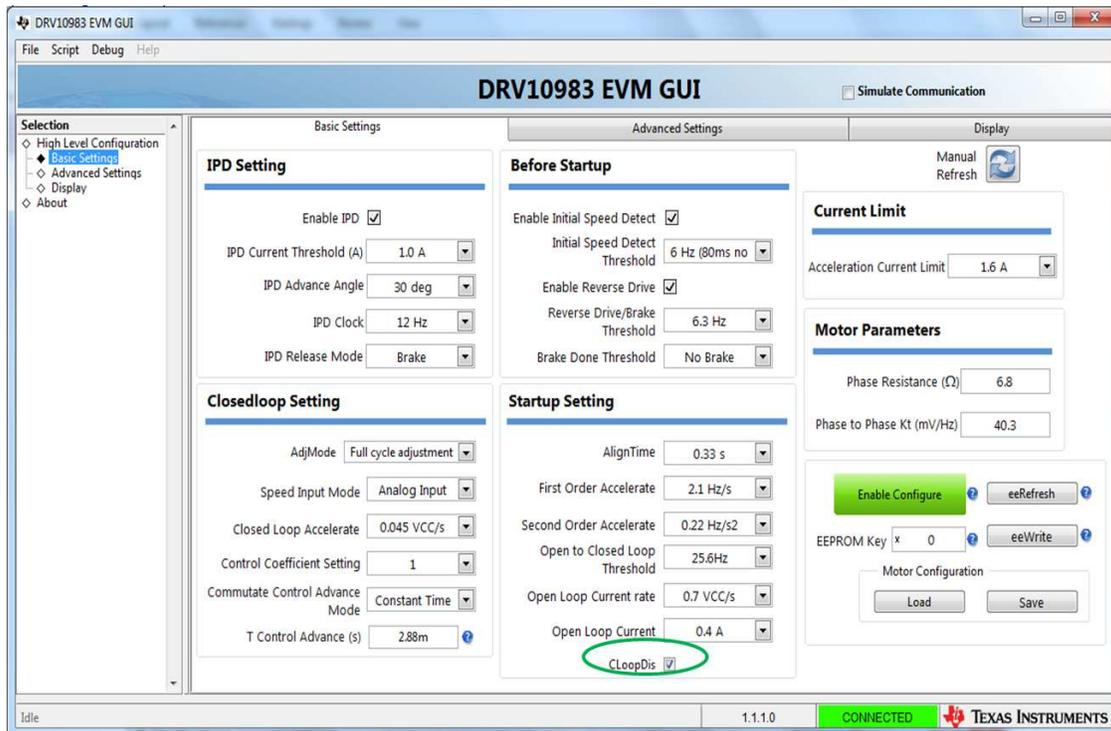

Figure 10. DRV10983x/75 EVM GUI Screenshot
- During the evaluation of IPD, disable close loop operation of motor by checking box 'CLoopDis' (see Figure 10).